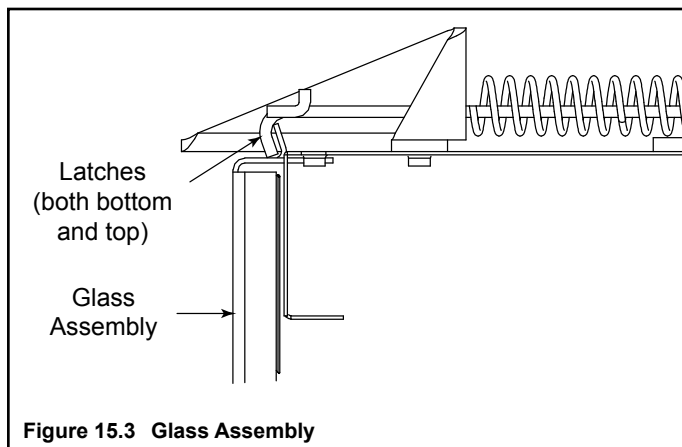

Figure 15.3 Glass Assembly
- Pull the four glass assembly latches out of the groove on the glass frame. See Figure 15.3